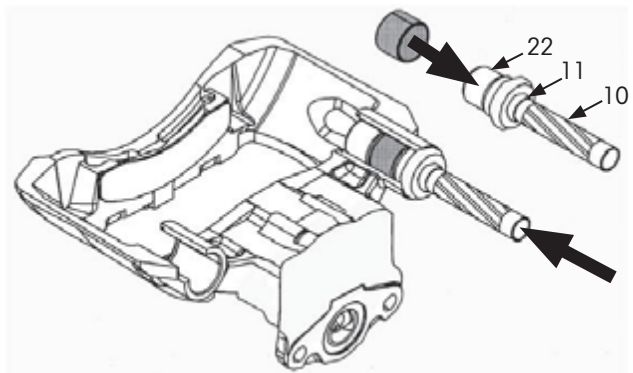

Figure 56: Inserting long guide outer bushing
- B. Assemble and use 10, 11 and 22 to press the outer bushing into the same bore until the tool stops (Figure 56).